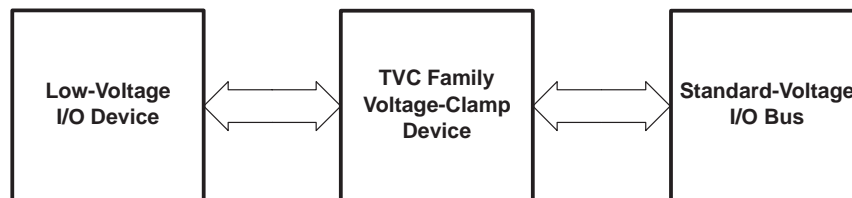

Figure 2. Thin Gate-Oxide Protection Application
The Texas Instruments (TI) translation voltage-clamp (TVC) family was designed specifically for protecting sensitive I/Os (see Figure 2). The information in this data sheet describes the I/O-protection application of the TVC family and should enable the design engineer to successfully implement an I/O-protection circuit utilizing the TI TVC solution.